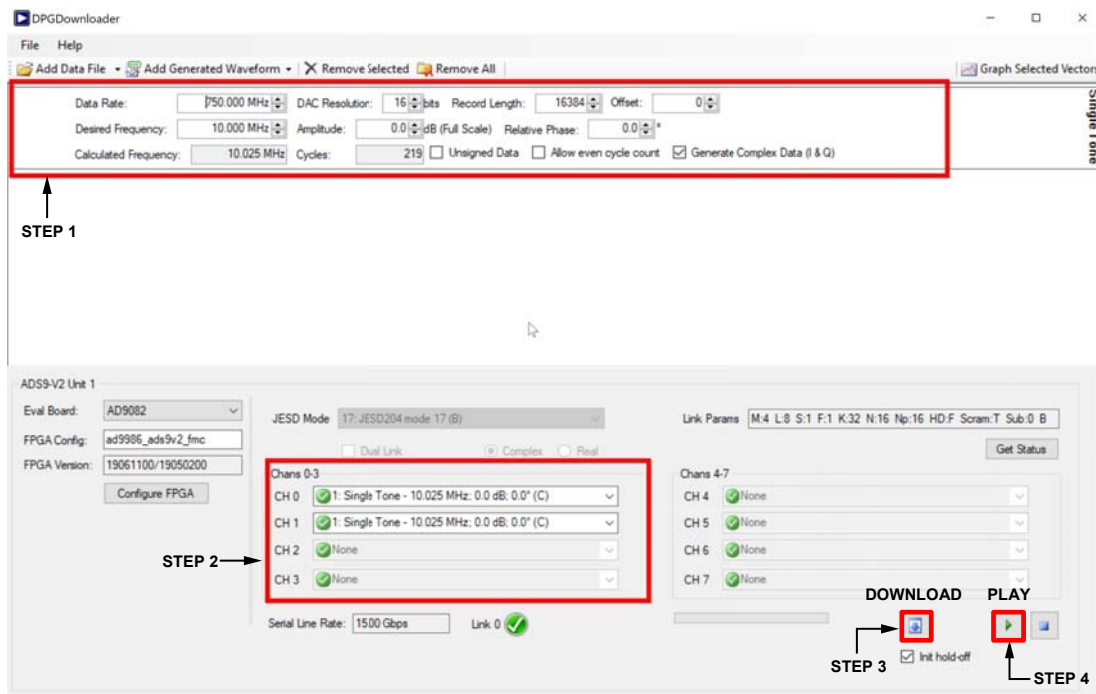

Figure 22. Downloading the Single-Tone Signal to the DAC
1. At the top of the window, enter or verify the following data values, as shown in Figure 22:
2. Select the channels. In Figure 22, two channels are selected.